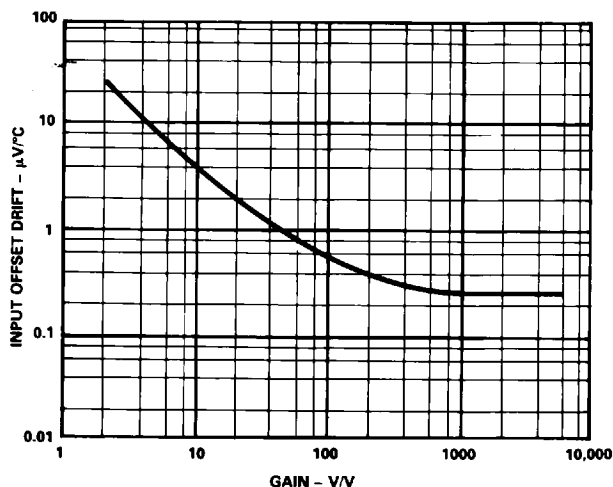

Figure 8. Total Input Offset Drift vs. Gain
**Input Offset Voltage Drift:** Total offset voltage drift is composed of input and output drifts and is a function of gain. The 1B31 typically exhibits  $\pm 0.25\mu\text{V}/^\circ\text{C}$  RTI drift at a gain of 1000V/V over the full temperature range. The RTI voltage offset drift vs. gain is graphed in Figure 8.